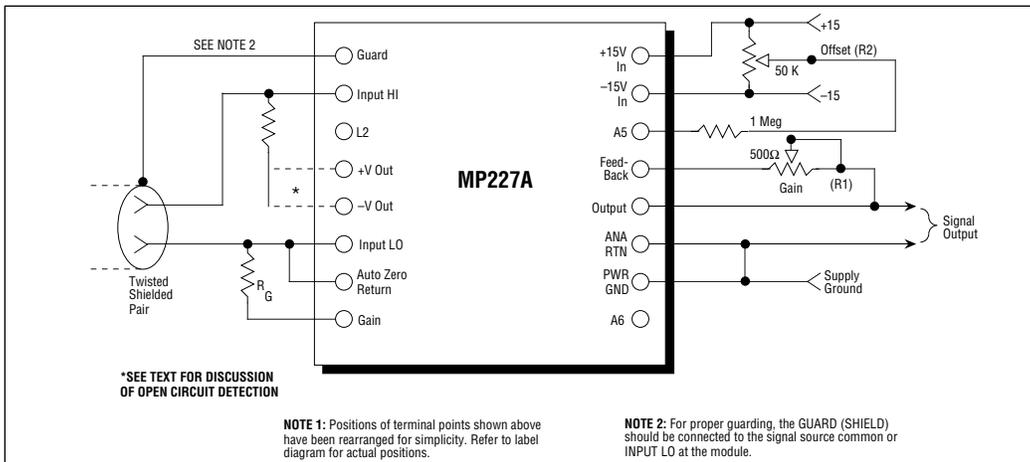

Figure 5. Typical External Connections – MP227A
25k or 50 k Ω (100 ppm/ $^{\circ}$ C or better) multi-turn potentiometer (R2) with a 1 M Ω resistor as shown in Figure 5. To adjust, momentarily short INPUT HI, INPUT LO, and AZ RTN to the output ANA RTN and set the offset potentiometer for zero output at the OUTPUT terminal.
The gain of the MP227A may be set to any value from 10 to 1000 by connecting an external resistor (RG) between the GAIN and INPUT LO terminals as shown in Figure 5.
The gain may be deliberately fine-trimmed, if desired, by connecting a 500 Ω (100 ppm/ $^{\circ}$ C or better) potentiometer (R1) between the FEEDBACK and OUTPUT terminals as shown in Figure 5. R1 compensates for the tolerance of RG plus the unit-to-unit gain variability (3%) between multiple MP227As. This also allows standardization of the outputs of multiple MP227As to a common full-scale range. For volume production where cost is a factor, the trimpot may be replaced with a fixed resistor selected during final testing.